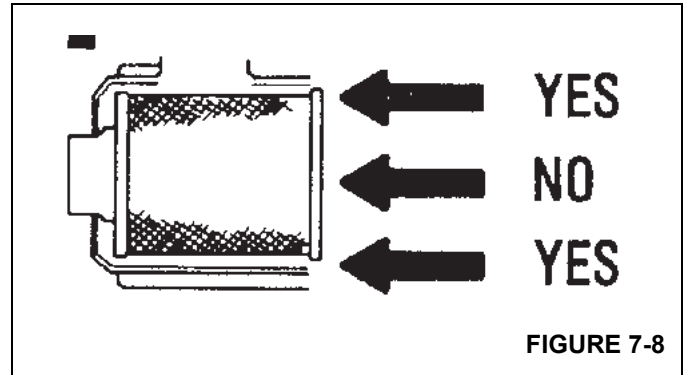

FIGURE 7-8
- b. **INSERT THE FILTER PROPERLY.** The seal area is on the inside of the open end of the primary filter. A new filter has a dry lubricant to aid installation. The critical sealing area will stretch slightly, adjust itself and distribute the sealing pressure evenly. To complete a tight seal, apply pressure at the outer rim of the filter, not the flexible center. No cover pressure is required to hold the seal (Figure 7-8).